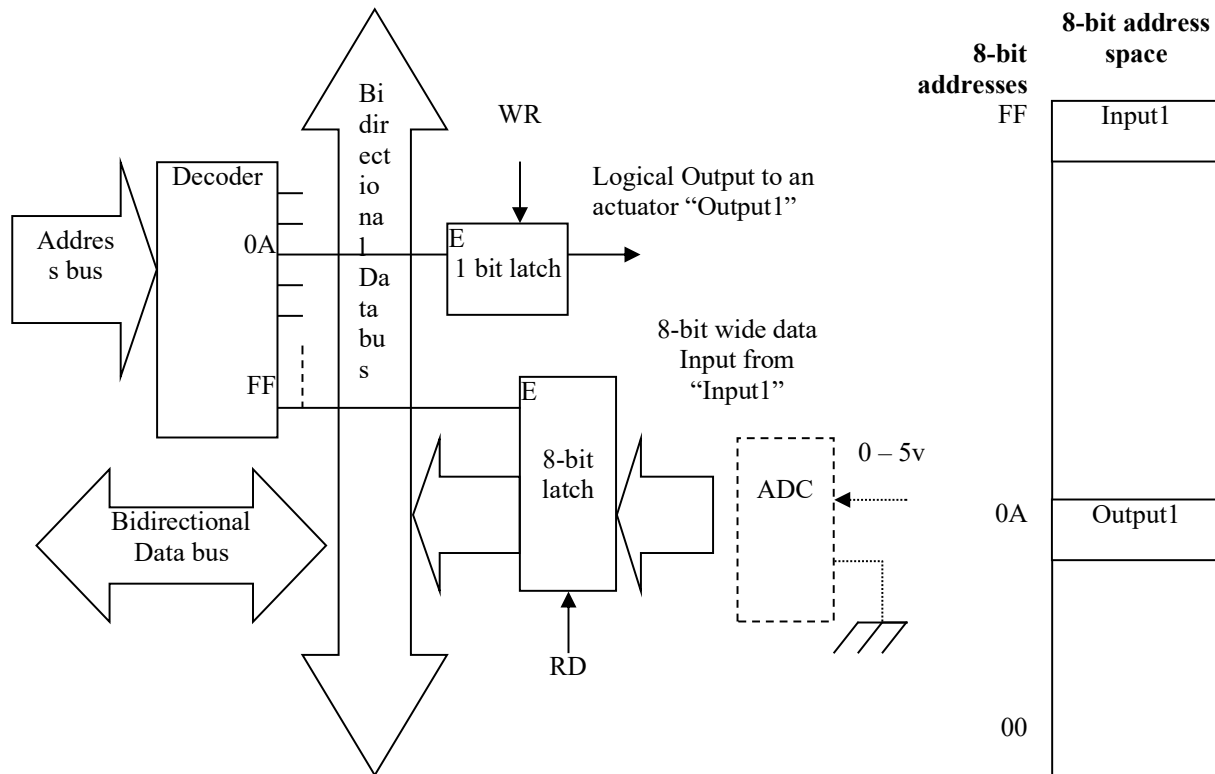

Fig. 5: System architecture for addressable IO and 8-bit address space representation
6. A reference design for an addressable IO system is given below (Fig 5). Correlate this with the figures given in 8088 CPU data sheet. Only one logical output and analog input are shown.